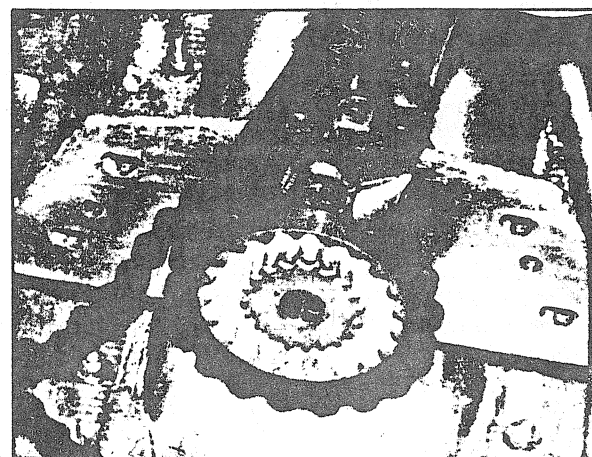

FIGURE 22
- Position a chain pipe wrench over the turbine flange then unscrew and remove the flange (fig. 22).